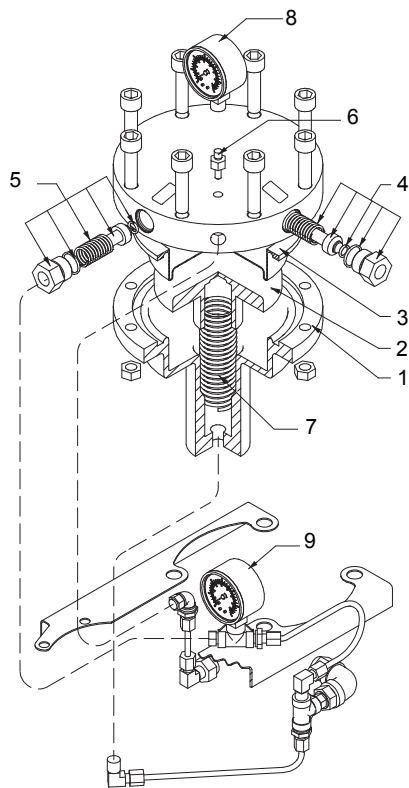

Fig. 5 Components of pressure intensifier
2	Filling the seal chamber Fill the intensifier and the seal chamber with barrier fluid, and connect the barrier fluid supply pipe to the unused inlet of the intensifier (pos. 4, fig. 5). The pressure in the seal chamber must always be 1.5 to 4 bar higher than the pump pressure when the pump is not operating. $p_f = p_s + 1.5 \text{ to } 4 \text{ bar.}$ p_f = To be read on the pressure gauge on the intensifier (pos. 8, fig. 5). p_s = To be read on the pressure gauge in the connection pipe (pos. 9, fig. 5) between intensifier and pump. p_s = inlet pressure when the pump is not operating; must always be 0.1 to 5 bar higher than the atmospheric pressure.